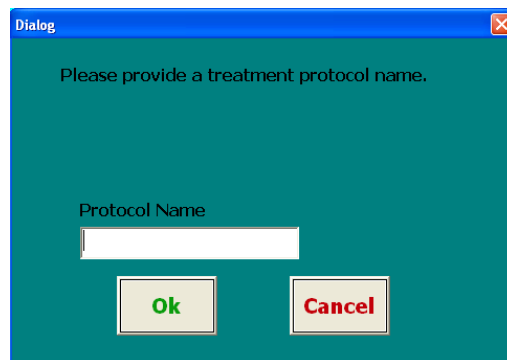

Figure 5f
- c. Enter a unique template name when prompted and click “OK” in the dialog box to return to *Treatment Setup* (Figure 5f).
- c. Enter a unique name for the template you are creating and click “OK” in the dialog box (Figure 5f).